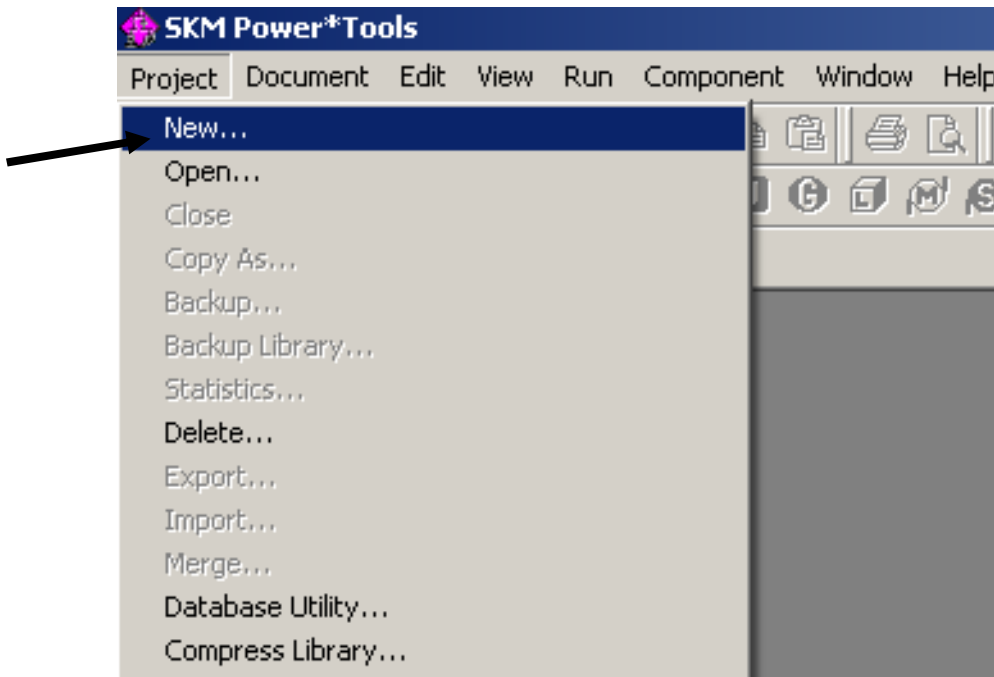

Fig. 2. Using the Project>New command.
3. Click on **Project>New** command, as shown in Fig. 2.